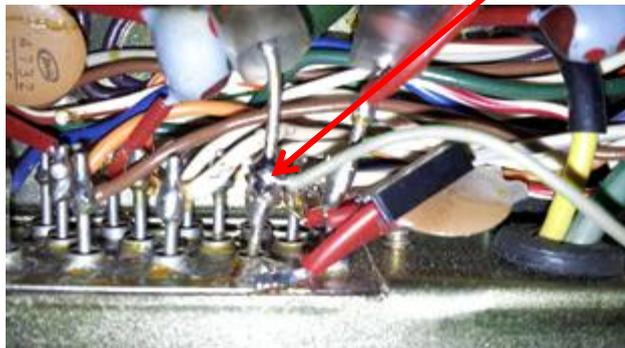

Figure 5
- Route the white wire, which is soldered to the new display board, to the rear wall and solder it on the connection of the cable entry (see Figure 5).